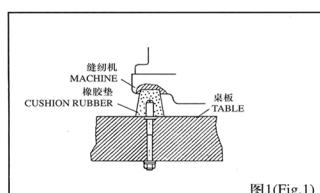

图1(Fig.1)
1、依本机器所付桌板裁制图及零件组合图所列配件，依序安装防震机座及线架（图1&2）
1、With referenceto diagrams for table cutting and mounting partlist,install vibration-reducing base and thread stand in sequence (Fig.1&2)